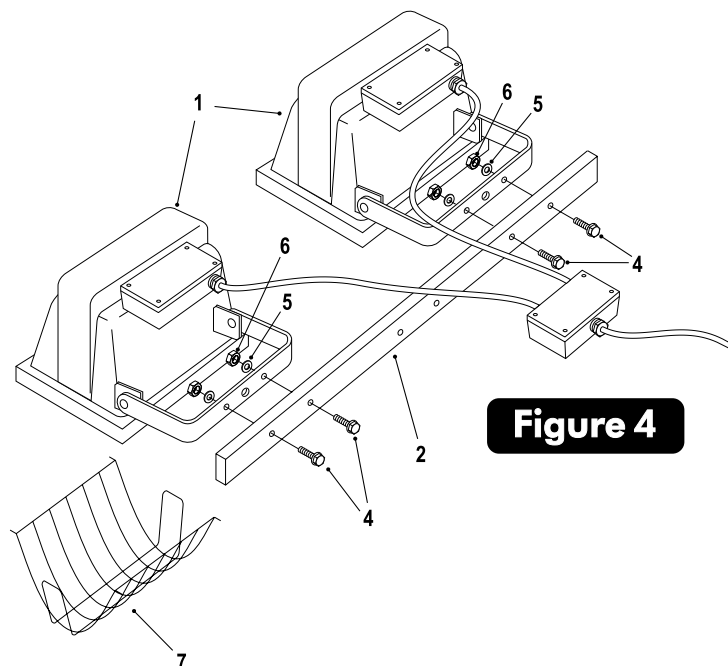

Figure 4
7. Attach Halogen Lamp Assembly (#1) to Lamp Mount Bar (#2) using four Washer Head Bolts (#4), four washers (#5) and four locknuts (#6) as shown in Figure 4.